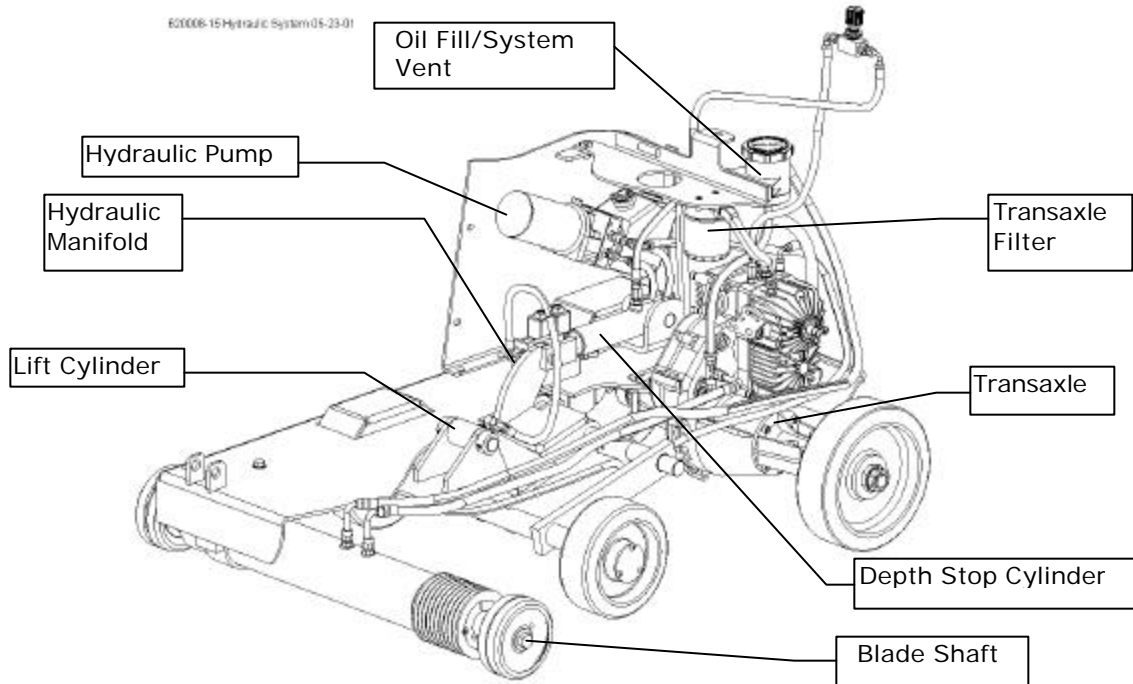

Fig. 42 — The Hydraulic System
3. Remove the used oil filter. **See Fig. 42.**